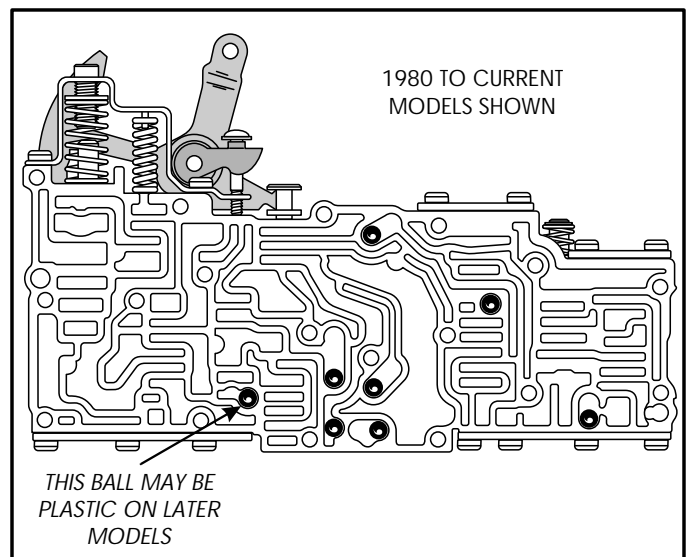

Figure 93
4. Remove the checkballs from the valve body cavities, as shown in Figure 93.
**Note:** *There are two different checkball configurations. Shown in Figure 93 is the 1980 to current version.*